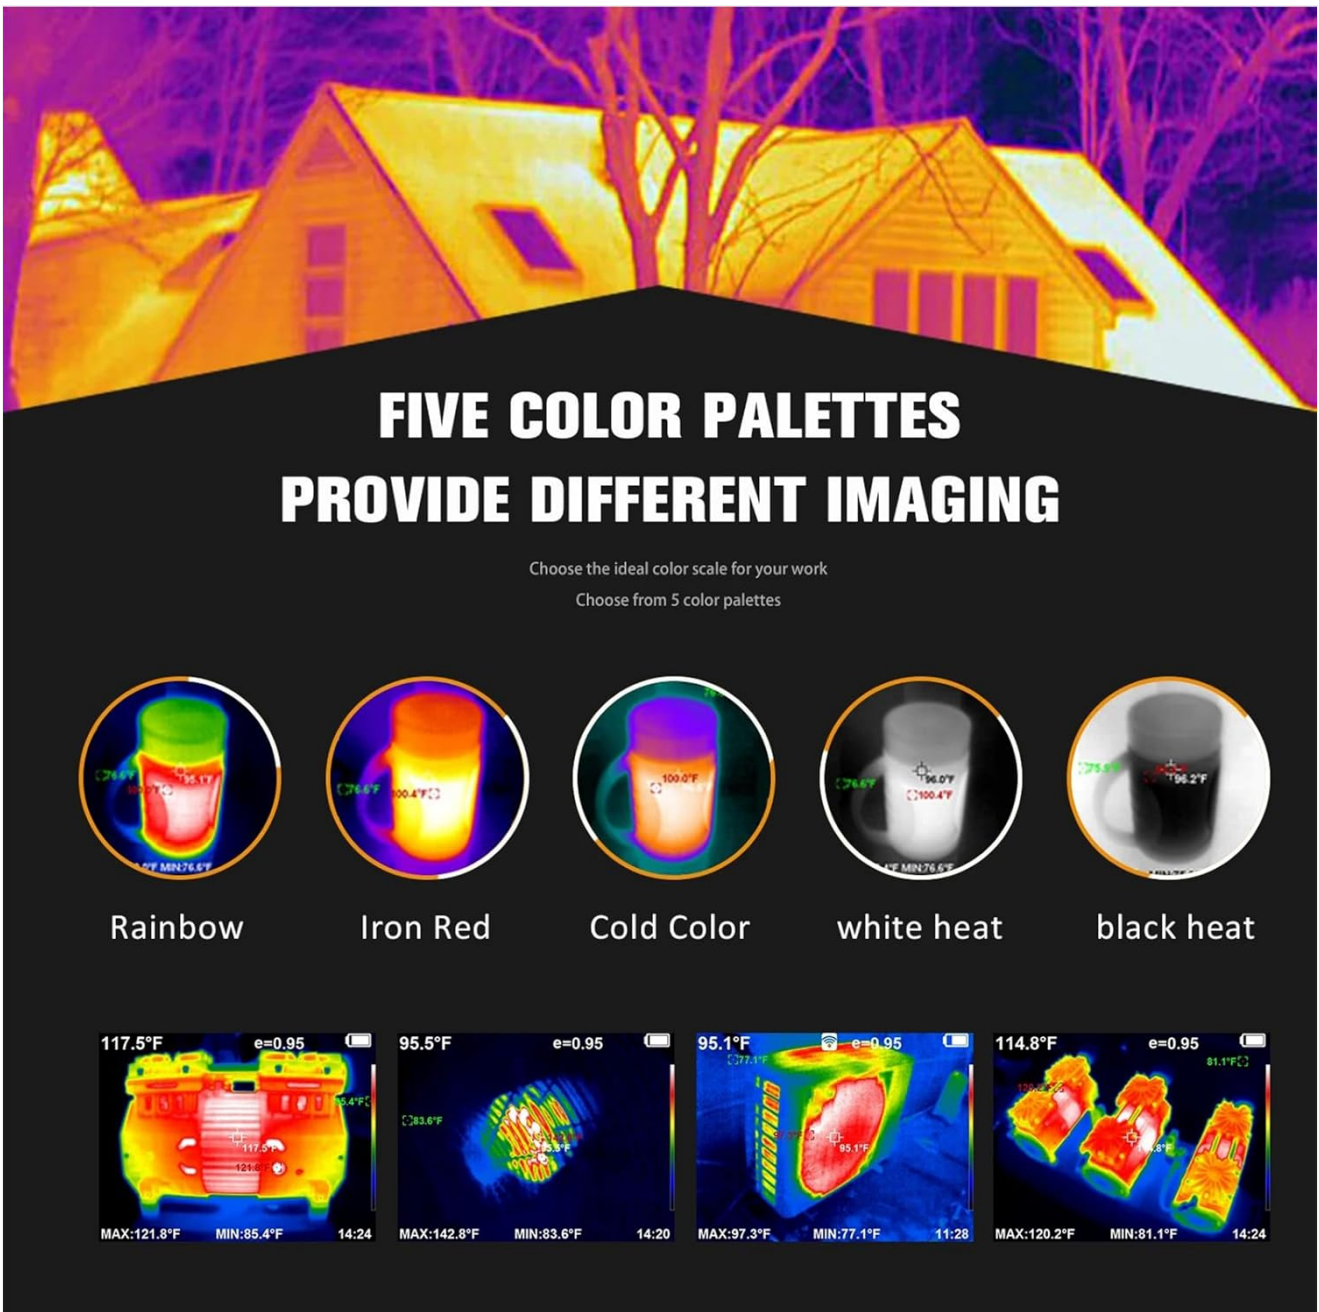

Figure 2.2: Labeled diagram of the YWYLL HT-18+ Thermal Imaging Camera, indicating key components and controls.
- **Image Capture:** Briefly press the dedicated capture button (refer to Figure 2.2) to take a still thermal image.